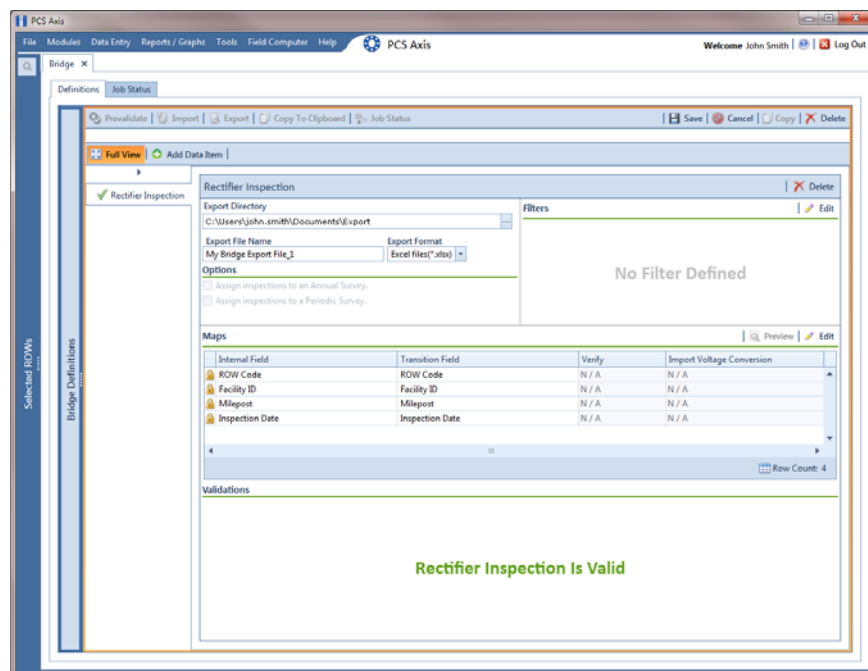

Figure 10-20. Bridge Definition
- c Click **OK** to close the dialog box and return to the definition window (Figure 10-20). Then click **Save**.